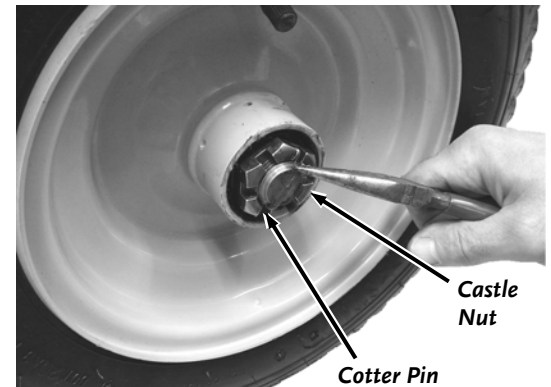

Figure 41
3. Straighten the ends of the Cotter Pin with Needle Nose Pliers so the Cotter Pin can be pulled from the hole in the Axle (**Figure 41**).
7. Screw the Castle Nut onto the Axle and tighten it with an Adjustable Wrench to seat the Bearings (**Figure 41**).